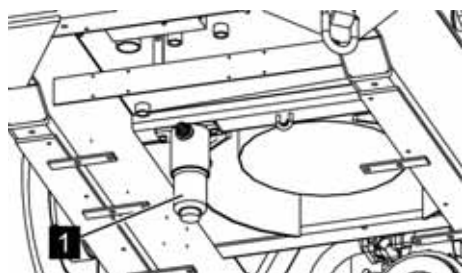

Fig. 147: Hydraulic filters
8. ➤ Screw the filter bowl (Fig. 147/1) back in.